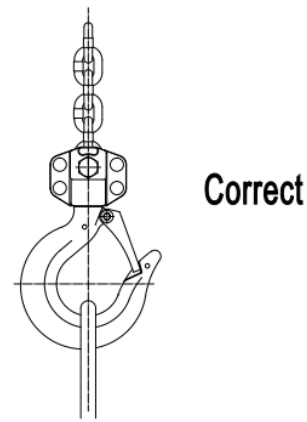

Figure 4
2. Correctly center the load on the bottom hook (Figure 4). Incorrect loading is dangerous to the operator, the lever hoist, and the load.